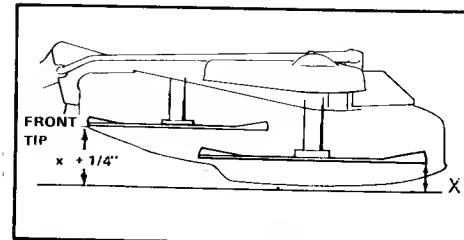

Figure 38. Levelling Mower
4. Measure the distance from the front tip of the center blade to the ground, and note that measurement. (See figure 38).
5. Measure the distance to the ground from the rear tips of the left and right blades. Compare these measurements with the measurement from the front tip of the center blade. The front tip of the center blade should be $1/4$ inch (6 mm) higher than the rear tips of the side blades (figure 38).